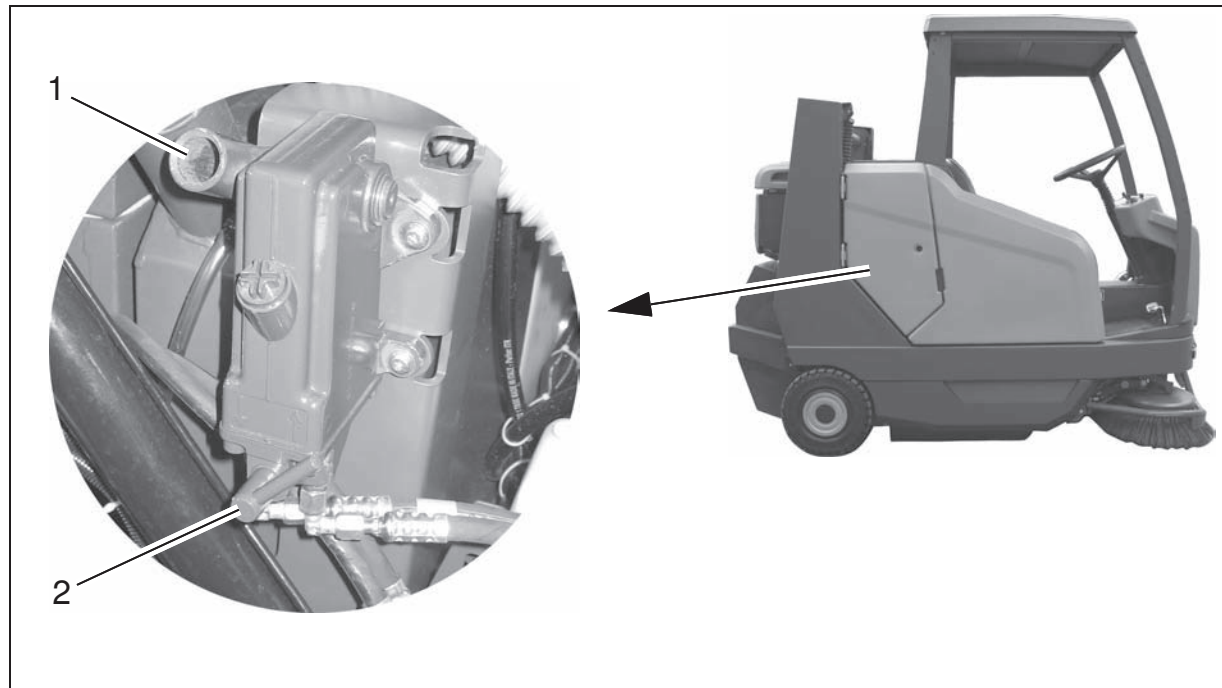

Fig. 12
2. Open the side flap and fit the pump lever on the hand pump (Fig. 12/1).
3. Set the knob (Fig. 12/2) on the pump to "raise" (arrow points upwards) and pump up the cab with the pump lever as far as possible.